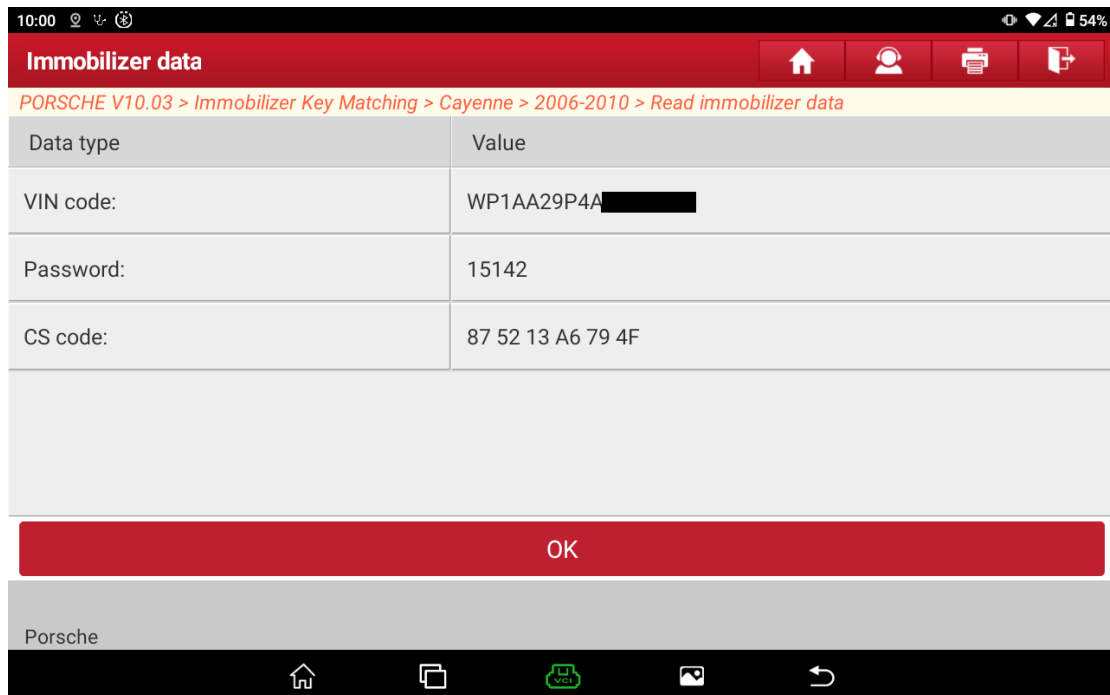

Figure 5 Immobilizer data
- It takes about 5 minutes to read the immobilizer data successfully. The immobilizer data is shown in Figure 5.